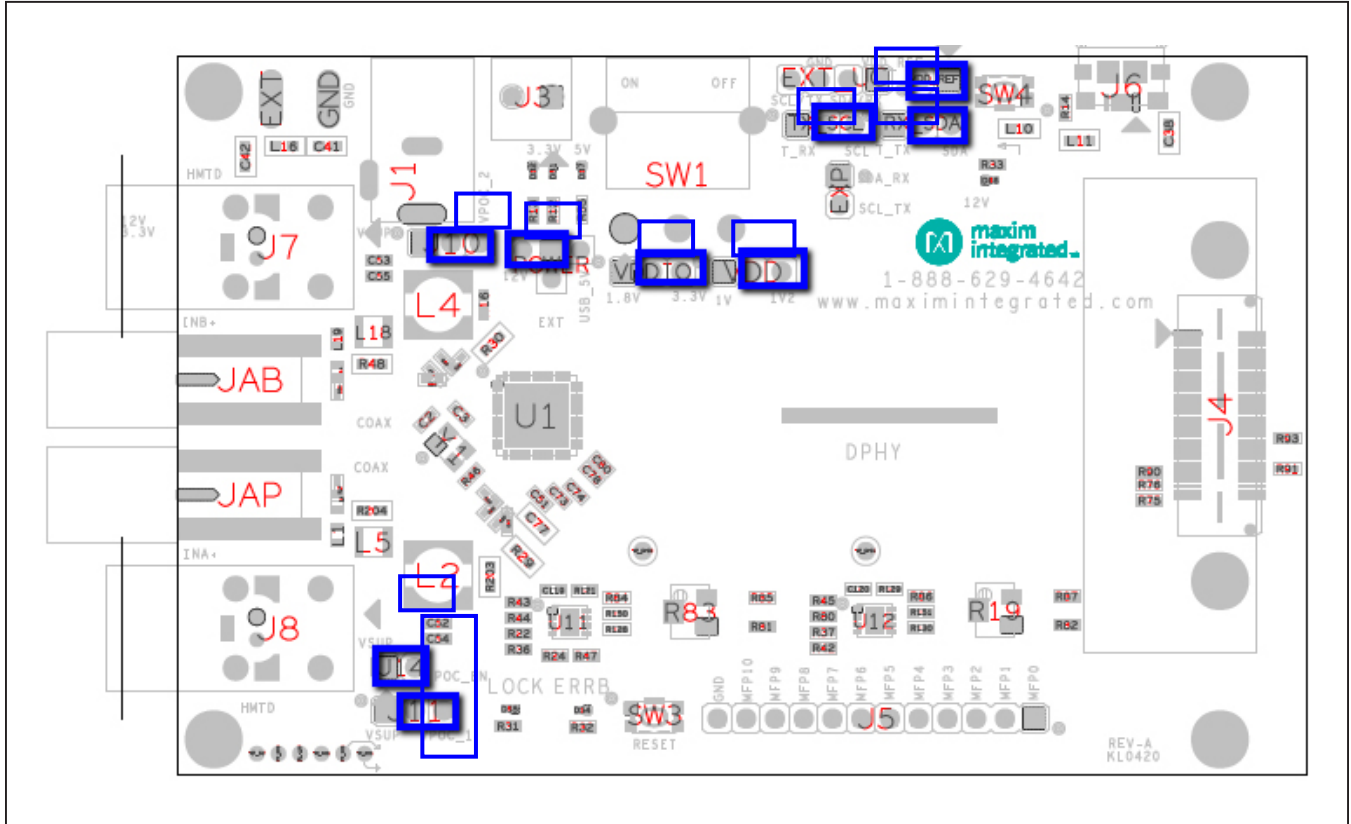

Figure 2: MAX96716 Deserializer EV Kit Default Jumper Settings
- 3) Assure that all jumper positions on the PCB are properly set to meet the requirements of the user's application. Figure 2 and Table 2 show the possible jumper positions for various configurations. The default jumper settings put the Device Under Test (DUT) into I2C mode, select 1.8V as the VDDIO voltage, select 1V as the VDD voltage, and cause the board to be powered by 12V DC barrel jack.